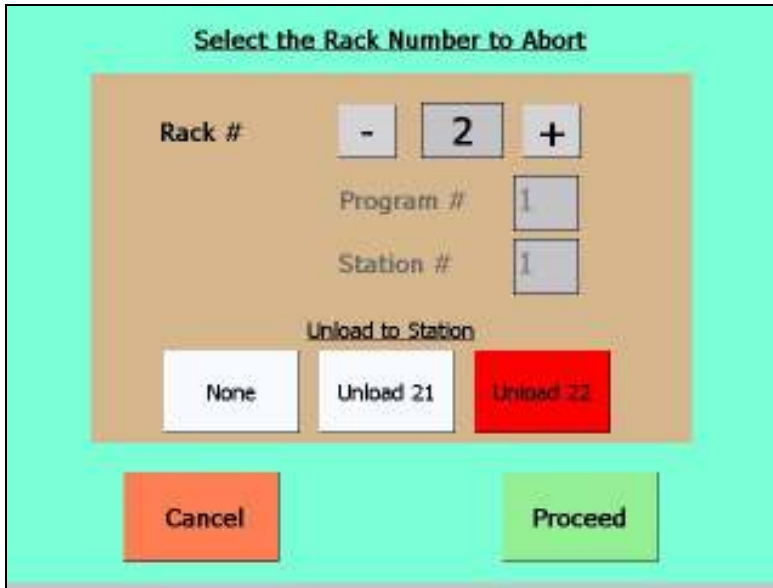

Figure 0-6: Cancel Rack Selection Screen
6. Select **Cancel All Racks** to view the Cancel Rack Selection Screen as shown in Figure 0-6.